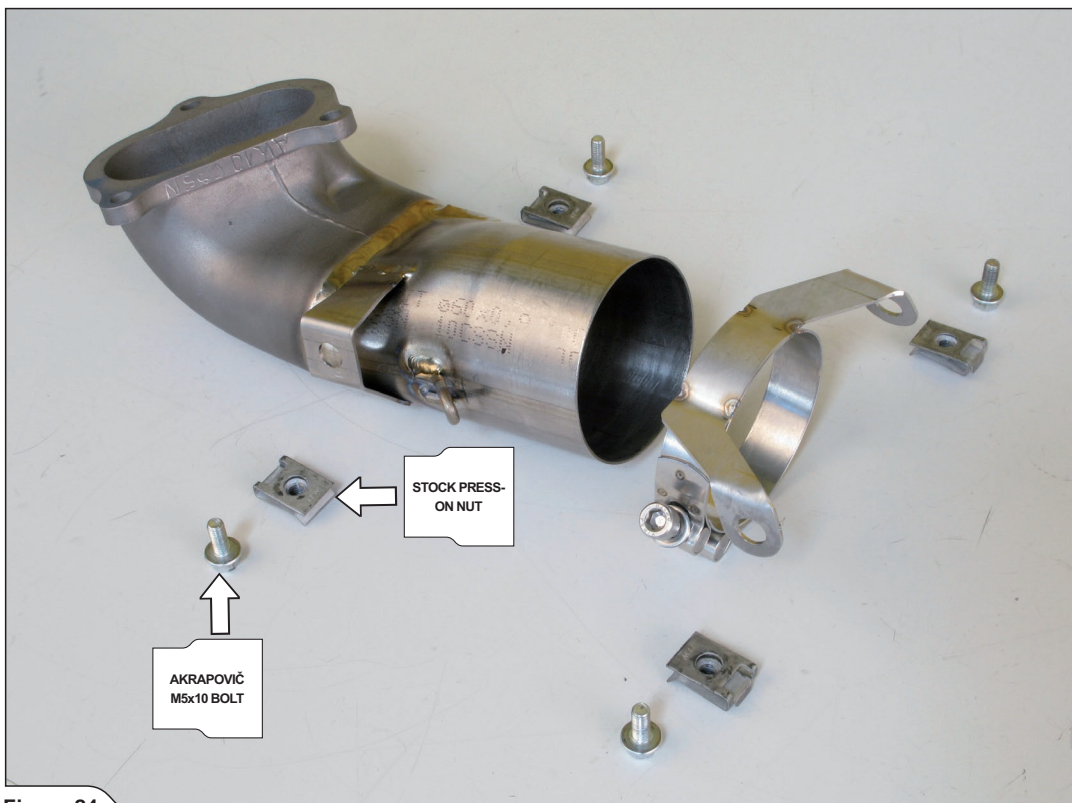

Figure 24
1. Assemble the stock heat shields onto the front header pipe, using stock press-on nuts and additional clamp and bolts from Akrapovič installation kit; attach the spring as shown (Figure 24, 25).